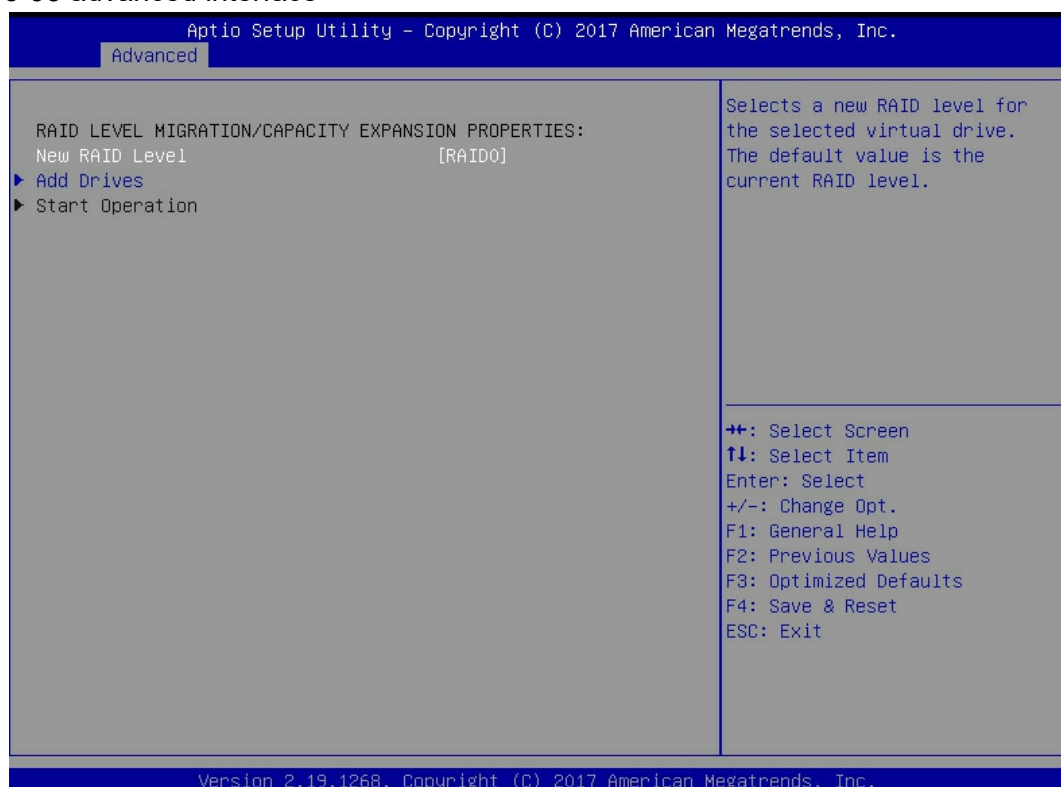

Figure 6-95
e) Enter the interface shown in figure 6-95, set the RAID level, select Add drives, and press enter.
✧ Figure 6-95 advanced interface